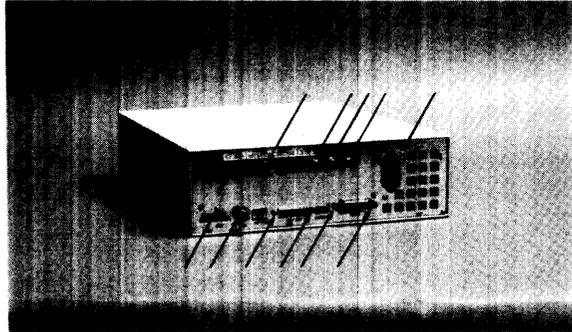

Figure 2-9. DIO-I Backplane Disassembly/Reassembly
- a. Remove the screws holding the DIO-I backplane to the DIO-I card guides (Figure 2-9.)
- c. To install the DIO-I backplane, reverse steps 4a and 4b above. Ensure the left and right DIO-I card guides are properly positioned (Figure 2-9).